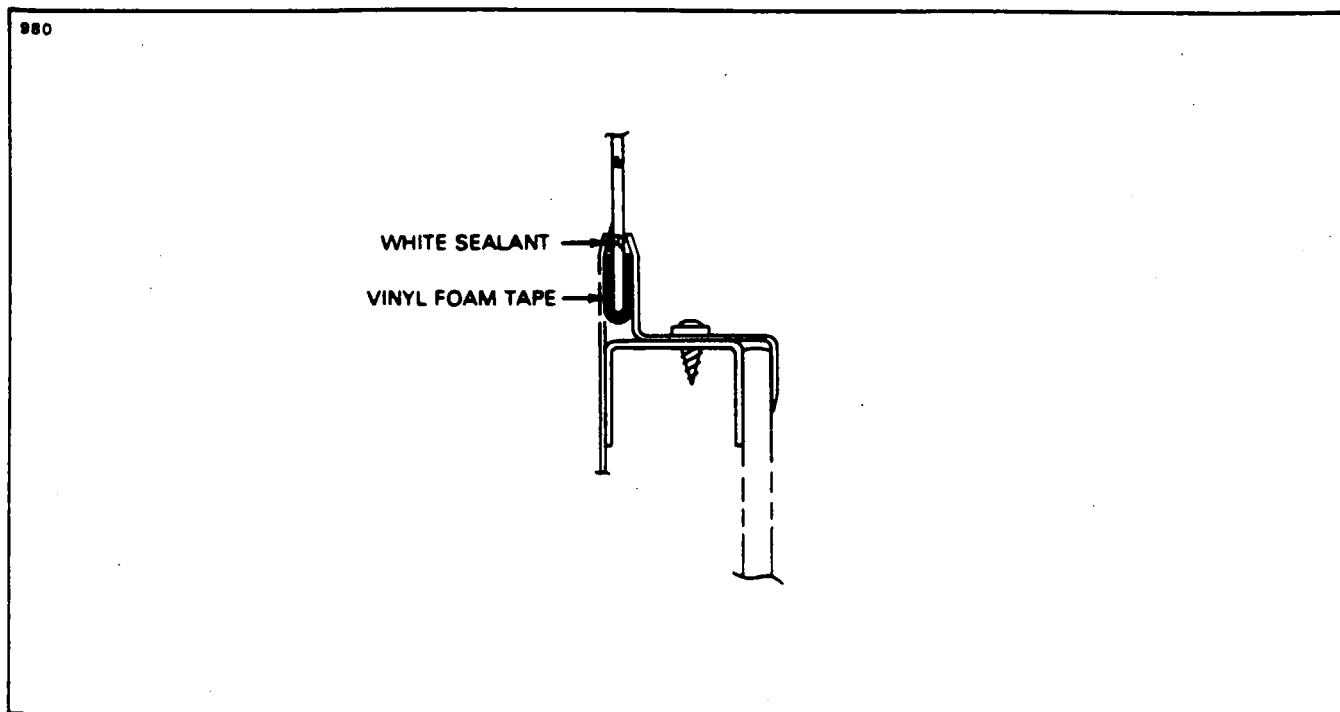

Figure 56-2. Side Window Installation, Single Pane (Typical)
- I. Single Pane (Refer to Figure 56-2.)